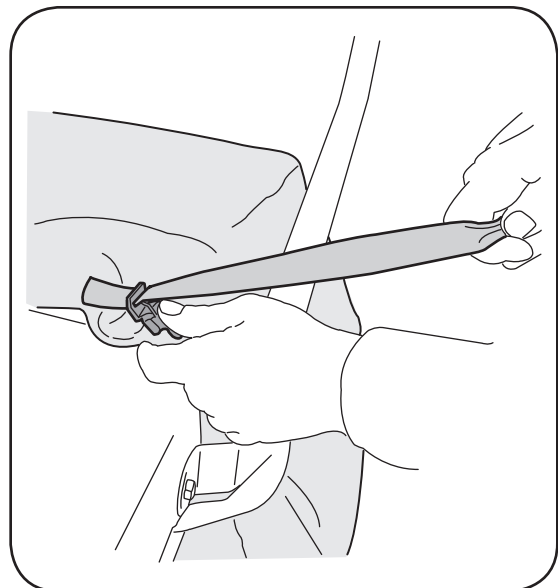

Figure 7
7. Squeeze the clamp on the drawstring and pull the drawstring tight. Release the clamp. See Figure 7.